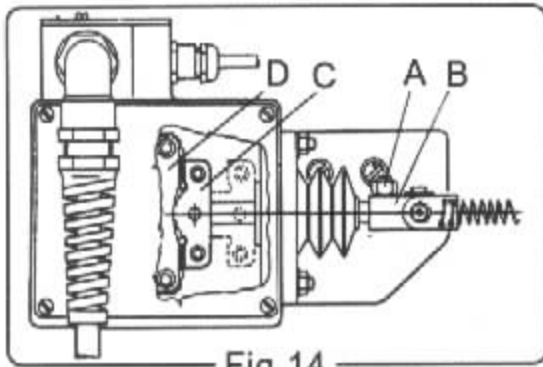
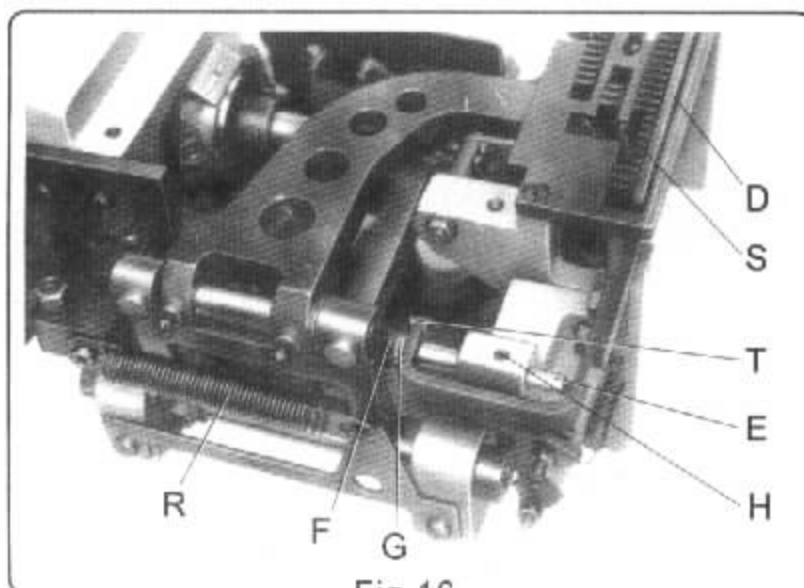
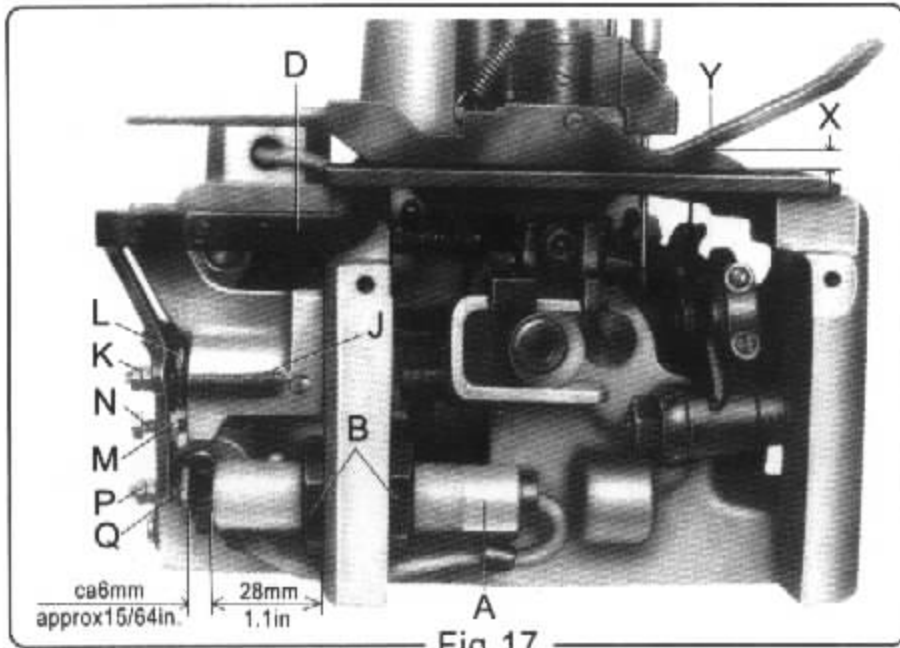

Fig. 14
Fig. 16
Fig. 17
Model GK35 - 5 thread chain cutter is driven by electro - magnet. Model GK35 - 6 thread chain cutter is driven by air cylinder. When the thread chain cutter is in its home position below the throat plate, the knife tip of the chain cutter S (Fig. 16) should be positioned 0.5mm below the throat plate top surface. To obtain this, adjust the knife lever stop screw T with lock nut in the bottom of the bed casting accordingly, retighten nut. In cutting position, above the throat plate top surface, the cutting edges of the chain cutters should overlap by 0.3mm.
Unhook pull - back spring R (Fig. 16) and press the solenoid until the core of solenoid butts on the solenoid D (Fig. 14). Loosen nut A and move clamp B on the solenoid rod to left or right until the cutting edges overlap about 0.3mm. Retighten nut A and replace pullback spring R (Fig. 16).
Caution: The piston of the air cylinder should not strike against the cylinder inside when actuated. The stroke of piston must be limited by clamp A (Fig. 17) striking against hexagon head stop screw B. Operating pressure of air cylinder is 0.3 - 0.5Mpa.
Remove colth plate and left end cover, mount the electronic proximity switch A (Fig. 17) to the dimension of 28mm as shown in (Fig. 17). When retighten two plastic nut B, don't damage the proximity switch.
The feeler D (Fig. 16 and Fig. 17) is adjusted initially with the two fastening screws for the feeler support bracket. The feeler should not have any lateral play, but should turn readily. For this, loosen lock nut G (Fig. 16), turn fastening screw F in or out as required, until the feeler turn readily. Retighten lock nut G.
The feeler D should be in the centre of the throat plate and the slot of the presser foot. For this, loosen lock screw H (Fig. 16) and centre the feeler D in the throat plate and presser foot slot by moving the centring shaft E (Fig. 16) laterally. Retighten screw H.
The dimension X (Fig. 17) between upper throat plate surface and the feeler should not be less than 7mm (set as high as possible). The distance between upper edge Y of feeler and lower edge of the feeler slot cut - out in the presser foot should be approx. 1mm to prevent impacting. For adjustment, loosen nut K and turn off screw L, so that the head of screw does not contact the magnet in the feeler support bracket. Loosen nut M and turn the feeler stop screw N in or out as required, to adjust the correct feeler height X. Secure the set feeler height with lock nut M.
d. Setting the Switching Pressure (Fig. 17)
e. Setting the Switching Point (Fig. 17)